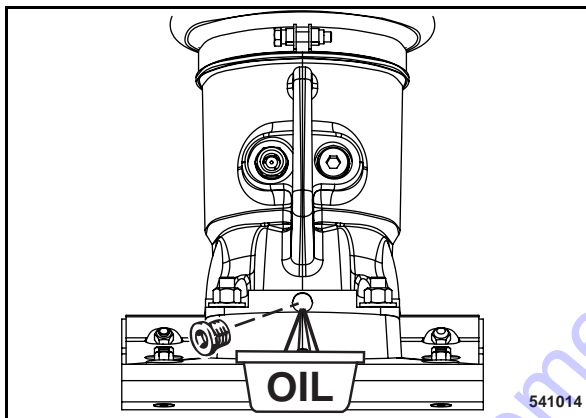

Fig. 52
- Clean and unscrew the oil drain plug (Fig. 52), let the old oil run out and catch it.